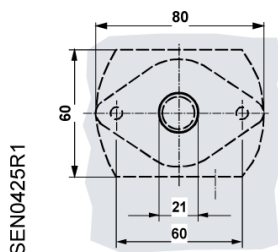

Figure 3. Drilling Template.
- b. Use the base as a template, and drill four holes with a No. 26 (0.147-inch) drill bit. See Figure 3.